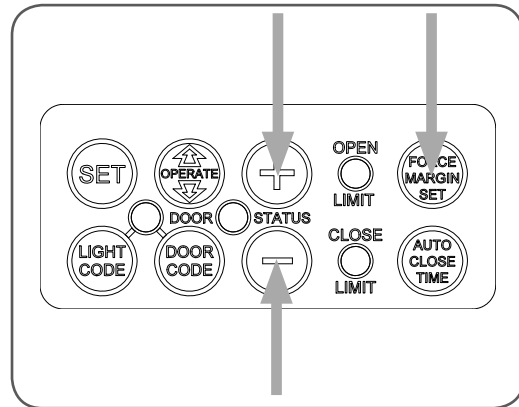

fig 29
- Hold down FORCE MARGIN SET button (Fig. 29)
- While holding the FORCE MARGIN SET button, press the PLUS (+) button. Each press increases the force margin (Fig. 29).
- While holding the FORCE MARGIN SET button, press the MINUS (-) button. Each press decreases the force margin (Fig. 29).